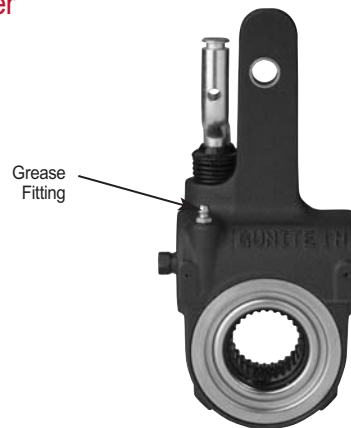

Figure 4 – Lubrication Points
1. A grease fitting is provided to allow lubrication during normal chassis servicing. (see Figure 4) With a conventional grease gun, lubricate until grease appears on the camshaft, or grease flows from the grease relief.